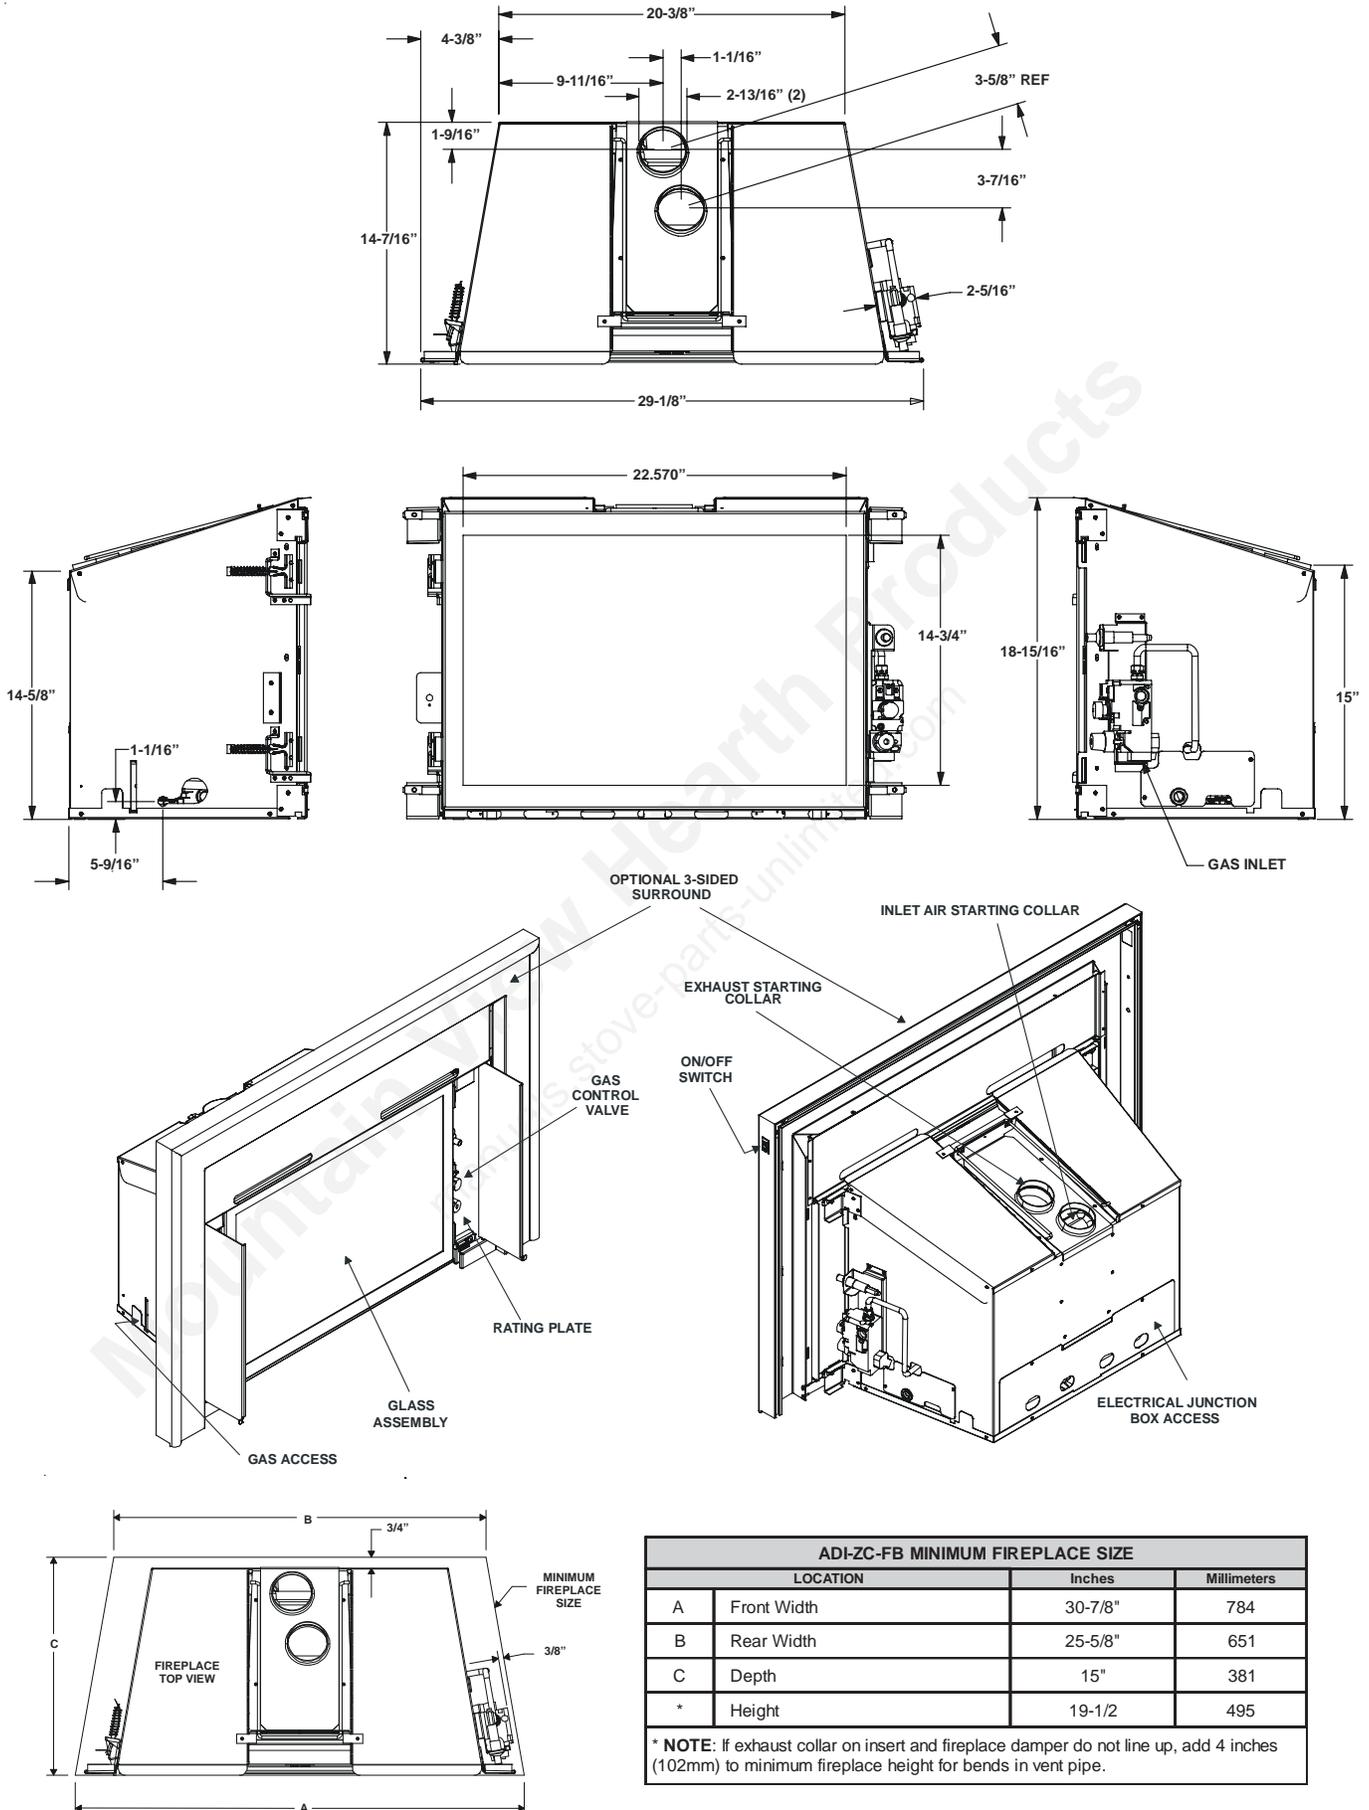

Figure 1. Diagram of insert and minimum fireplace dimensions
2. Minimum fireplace opening requirements are shown in Figure 1 of this installation manual. The firebrick (refractory) can be removed from a factory built fireplace in order to gain minimum gas insert opening requirements.